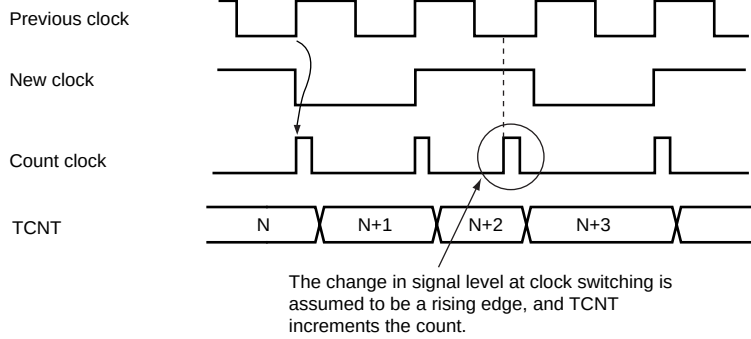

Figure 11-25 Internal Clock Switching and TCNT Operation
- 3. Depending on the timing, TCNT may be incremented by a switch between different internal clock sources. When TCNT is internally clocked, an increment pulse is generated from the rising edge of an internal clock signal, that is divided system clock (ϕ). Therefore, as shown in figure 11-25 the switch is from a low clock signal to a high clock signal, the switchover is seen as a rising edge, causing TCNT to increment.